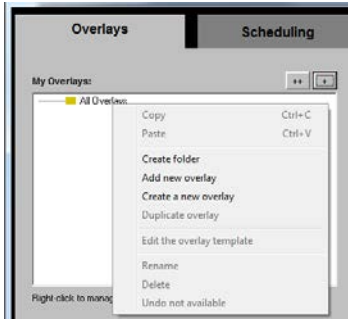

Figure 37: Setting the Overlays – Right-Clicking the All Overlays folder
1. In the Overlays tab (see Figure 37), click +.
1. In the Overlays tab (see Figure 37), right-click the **All Overlays** folder and click **Add overlay from scratch** or click **++**.